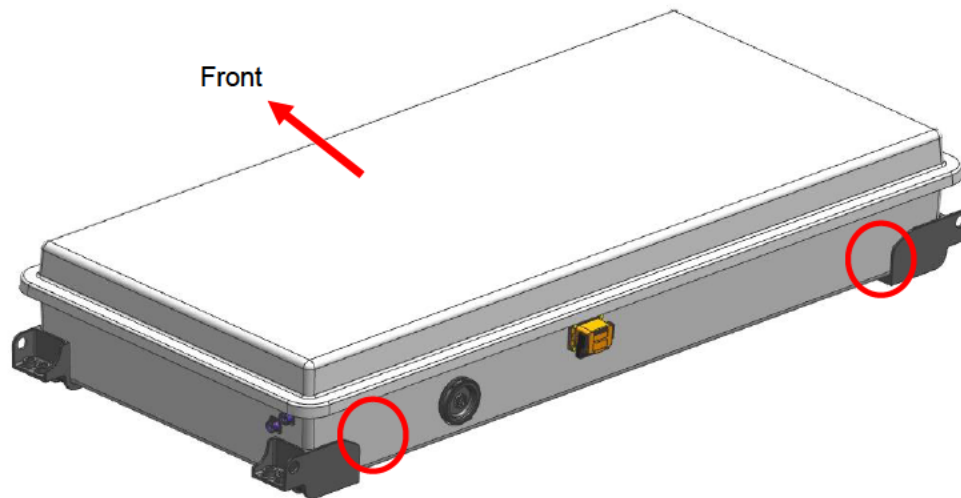

Figure 19: Location of Drain Ports
1. Each ESS enclosure (rooftop and rear) will have four drain ports installed in the approximate locations indicated below - two ports on the front side of each enclosure (not shown), and two ports on the rear side of each enclosure (as shown below in Figure 19).